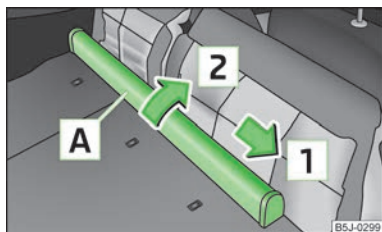

Fig. 55
- Push the net partition housing **A** » Fig. 55 in the direction of the arrow **1** and remove it from the mount on the right seat rest in the direction of the arrow **2**.